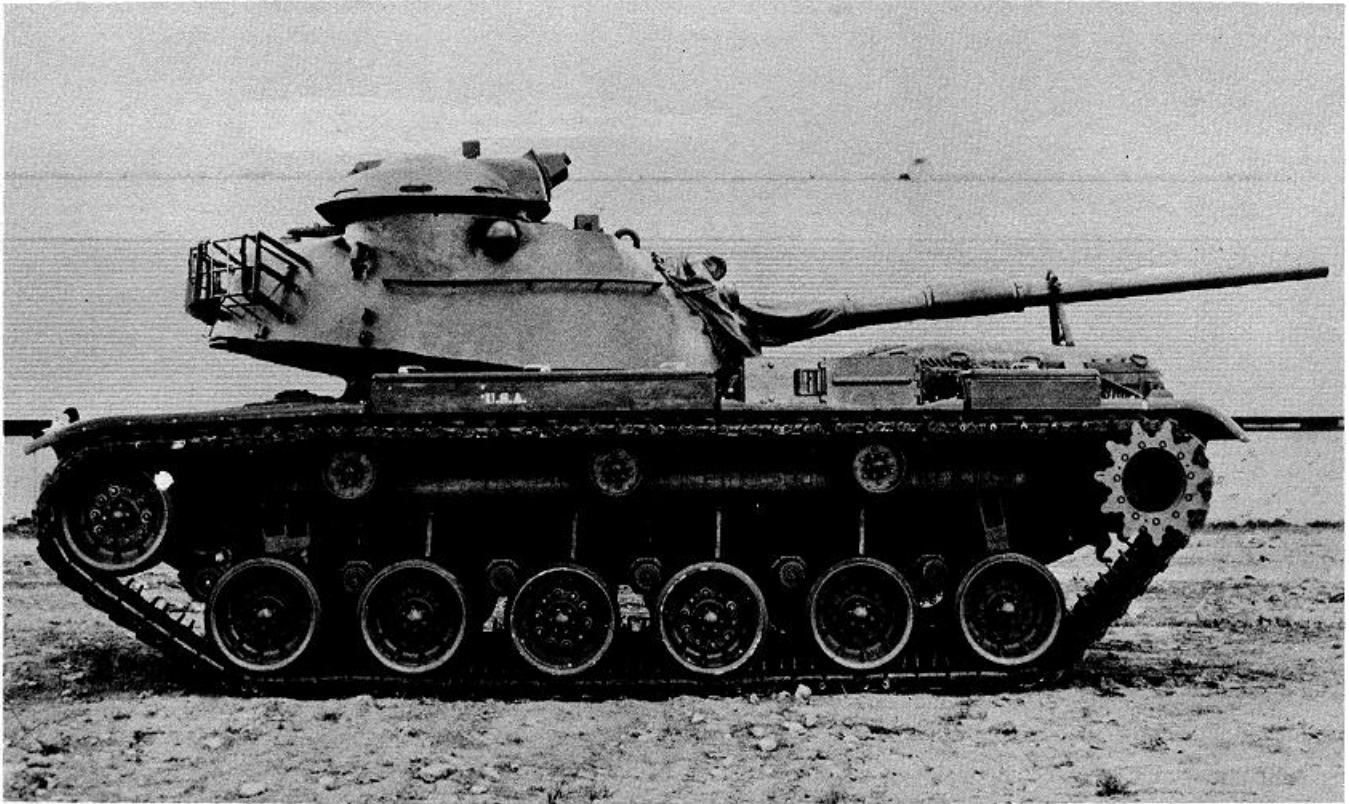

Figure 2-2. Tank, combat, full-tracked, 105-mm-gun, M60A1.
c. *M60A1 (fig 2-2).* The M60A1 armament includes a 105mm gun (M68) mounted in a combination gun mount (M140), with a coaxially mounted 7.62mm machine gun mounted on the combination mount and CA1; furnisher a caliber .50 machine gun mounted in the commander's cupola (M19).